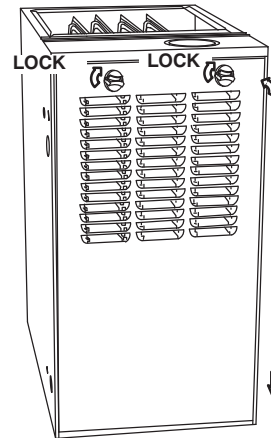

Fig. 9 – Furnace Door Replaced
- Replace the outer door and tighten the thumbscrew, see Fig. 9.
6. Replace the outer furnace door, see Fig. 9.
6. Replace the access door, see Fig. 9.